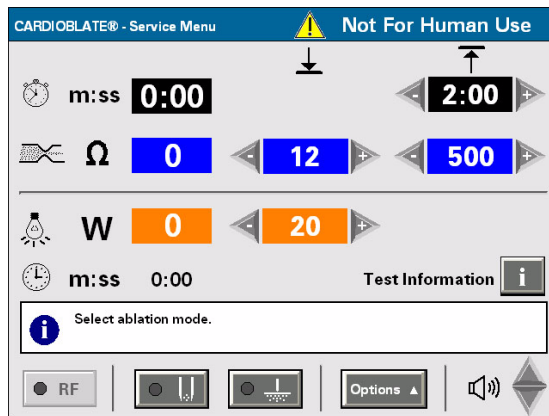

Figure 5. Service Menu, Devices Attached
4. Plug the monopolar, bipolar, and dispersive cable connectors into the therapy panel located on the right side of the generator. Verify the connections are fully inserted and seated. The screen should now appear as in Figure 5.